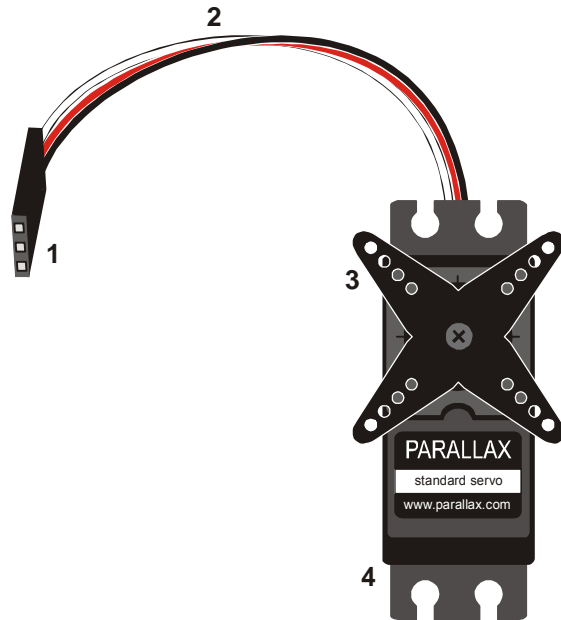

Figure 4-1
Figure 4-1 shows a drawing of a Parallax Standard Servo. The plug (1) is used to connect the servo to a power source (V_{dd} and V_{ss}) and a signal source (a BASIC Stamp I/O pin). The cable (2) conducts V_{dd} , V_{ss} and the signal line from the plug into the servo. The horn (3) is the part of the servo that looks like a four-pointed star. When the servo is running, the horn is the moving part that the BASIC Stamp controls. The case (4)